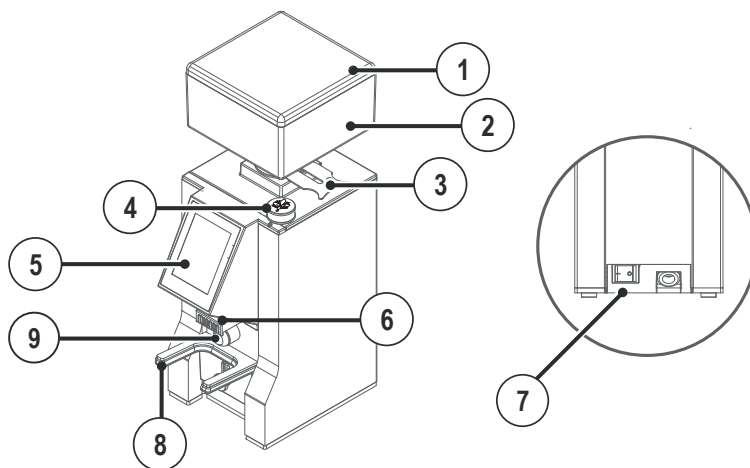
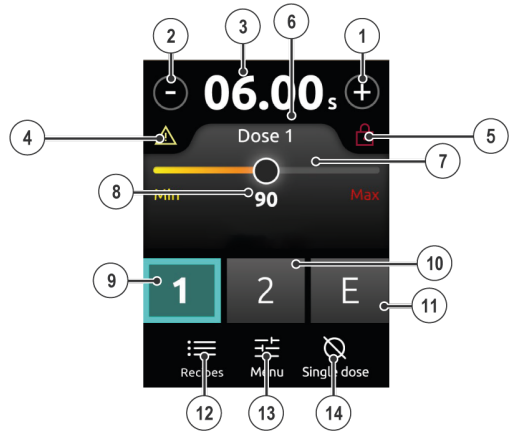

Fig. 5.1 - Description of the appliance
Fig. 5.2 - Main page
For the appliance parts, see Fig. 5.1.
For the description of the display, see Fig. 5.2.
As the knob is rotated, on the main page you can see the distance between the burrs; this distance is associated with the type of grinding selected (8 - Fig. 5-2).
- Bring the switch to the ON position (9 - Fig. 5.1).
- Use the relative buttons (9,10, 11 - Fig. 5.2) to select the dose to be dispensed.
- Rest the portafilter basket on the fork (8 - Fig. 5.1), making sure the fork is exactly underneath the dispensing nozzle (6 - Fig. 5.1).
- Press the selected dose button again, or the front button (9,10, 11 - Fig. 5.2) (9 - Fig. 5.1).
In the stop condition, the grinding time on the display (3 - Fig. 5.2) flashes.
To bring the dose time back to its initial value, press on the flashing grinding time (3 - Fig. 5.2) for 2 seconds.
From the main page (Fig. 5.2), you can access the following functions:
To reduce or increase the selected dose, press the + or - button on the main page (1, 2 - Fig. 5.2). The variation for the single dose is 0.1 seconds.
To enable the continuous variation (increase) of the dose time, press and hold one of the two buttons + or - (1, 2 - Fig. 5.2).
To lock dose dispensing time adjustment, press + and - simultaneously (1, 2 - Fig. 5.2) for 2 seconds. If dose dispensing time adjustment is locked, the  icon (5 - Fig. 5.2) will appear on the display and the + and - buttons (1, 2 - Fig. 5.2) will be disabled.
To release dose dispensing time adjustment, press + and - simultaneously (1, 2 - Fig. 5.2) for 2 seconds.
To select the required dose, press button 1, 2 or E (9, 10, 11 - Fig. 5.2).